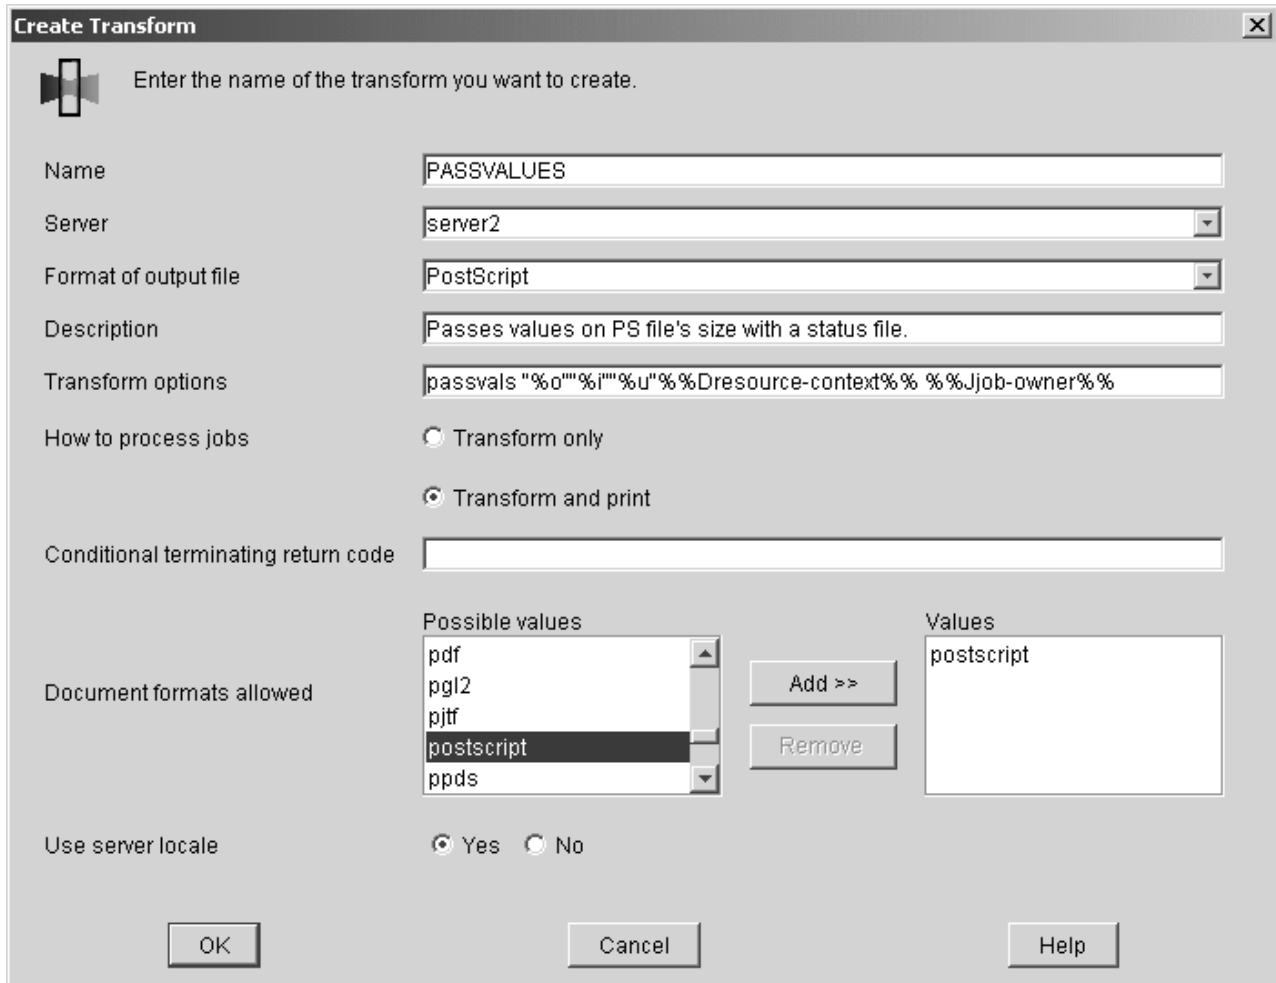

Figure 69. Create Transform dialog: Define a transform to pass job attributes
3. In the **Create Transform** dialog, fill in the fields as shown in Figure 69 on page 255.